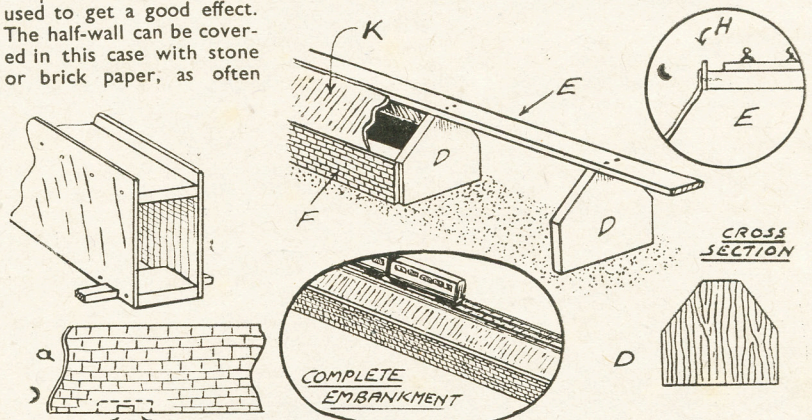

Fig. 3—The parts of a built-up embankment
For the type of embankment with a wall at the bottom, cut a number of 'cross-sections' as (D), Fig. 3, out of  $\frac{1}{2}$  in. or even  $\frac{3}{4}$  in. wood. These are set at well-spaced intervals along the course of the length in question and then connected by the top board (E) which takes the rails. Fasten together with long small-diameter screws at the point of contact and then put on the wall (F) a suitably-sized strip of plywood or stiff card. When together, these sections form a very rigid frame.